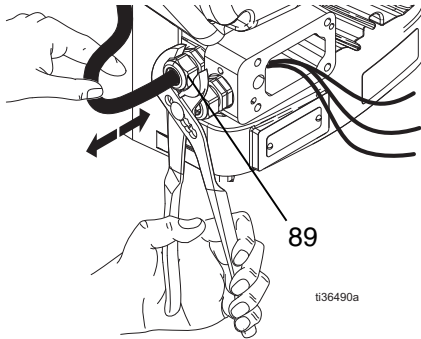

FIG. 13: Remove Fan Wires
- Route wires through fan cord grip (89) attached to driver (see FIG. 13 on page 15).
- Tighten fan cord grip (89) (see FIG. 13 on page 15).